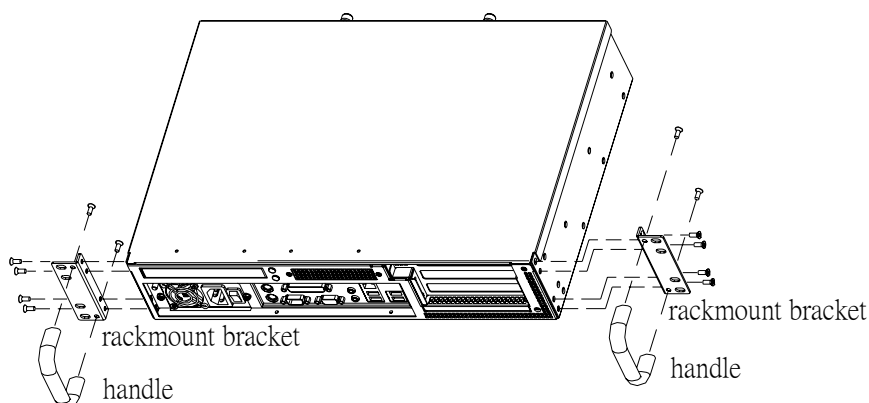

**Figure 2.4 Place the drive bay bracket kit into the chassis**
4. Refer to Figure 2.4 and mount a slim-type ODD and a 3.5" HDD with screws.